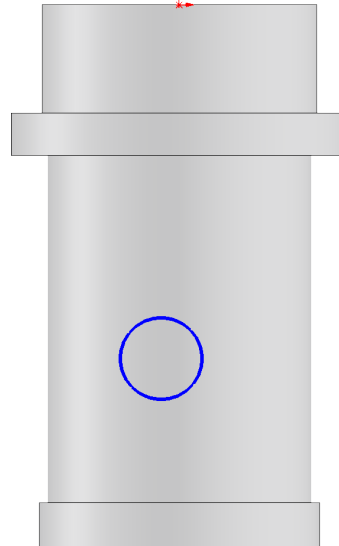

Fig. 12
Step 4. Sketch **circle below Origin** , **Fig. 12**.